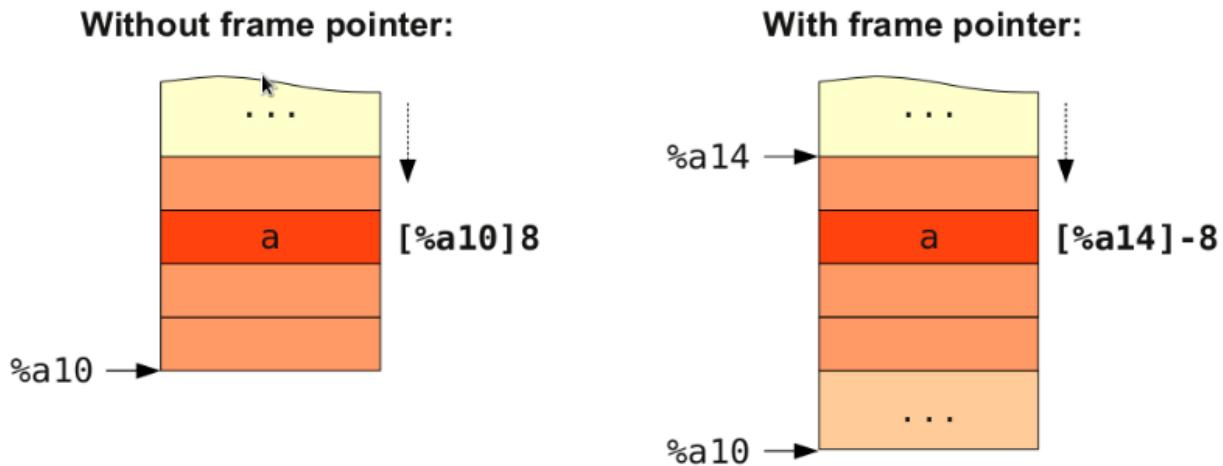

Figure 3.9: Addressing of a variable *a* located on the stack. If the stack frame has a variable size, slot must be addressed relative to the frame pointer
- eliminateFrameIndex() is called for each instruction that references a word of data in a stack slot. All previous passes of the code generator have been addressing stack slots through an abstract frame index and an immediate offset. The purpose of this function is to translate such a reference into a register-offset pair. Depending on whether the machine function that contains the instruction has a fixed or a variable stack frame, either the stack pointer %a10 or the frame pointer %a14 is used as the base register. The offset is computed accordingly. Figure 3.9 demonstrates for both cases how a stack slot is addressed.